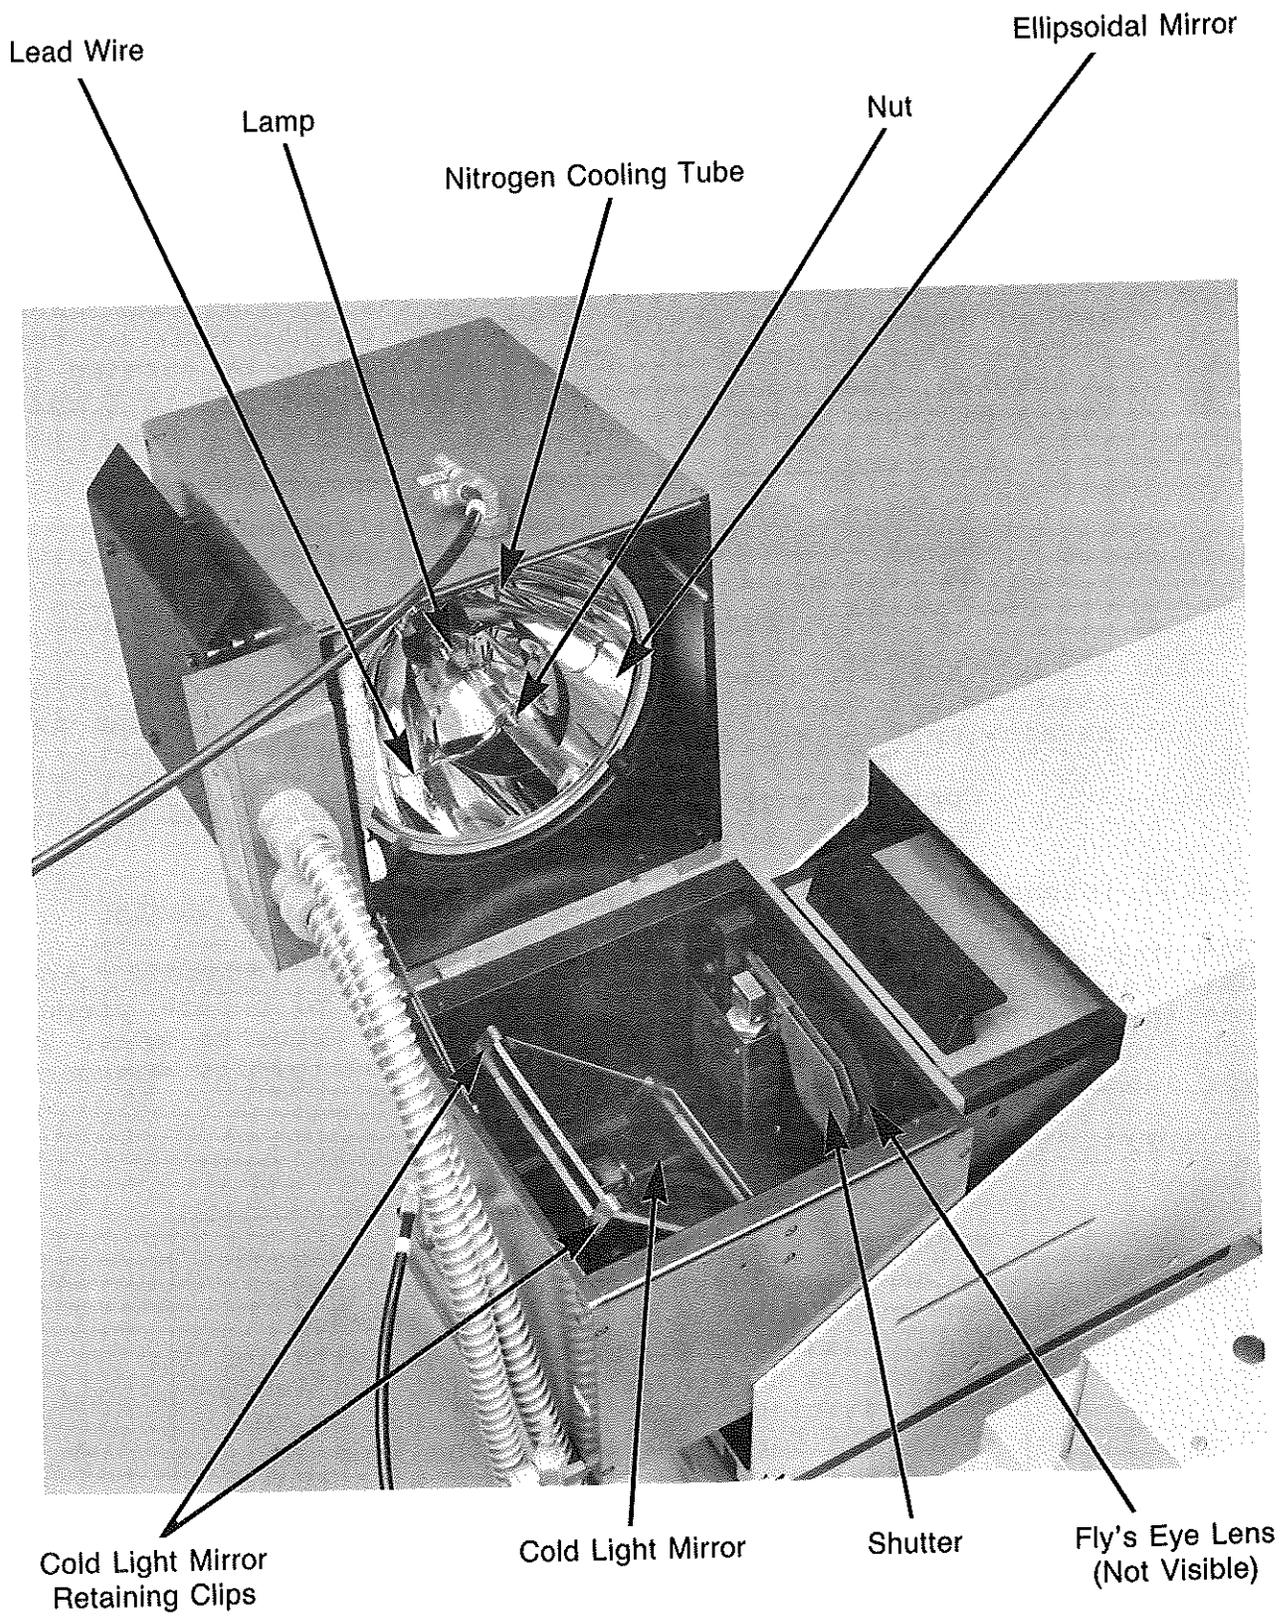

Figure 5-1 Lamphouse (Interior)
3. Unscrew the screw securing the lamphouse and carefully swing it open on its hinges. Please refer to Figure 5-1.